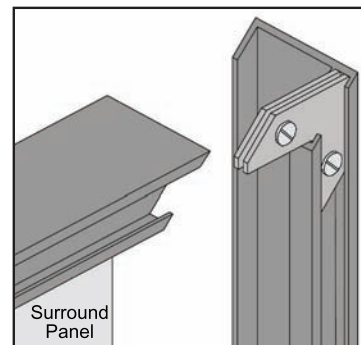
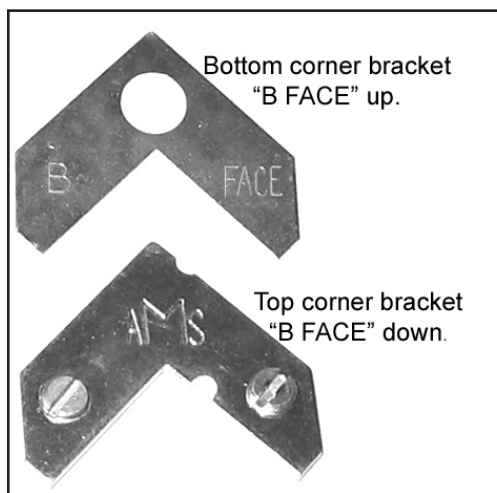

Figure 27: Corner brackets for trim.
Figure 28: Two pieces of corner bracket.
1. Attach one side trim to the top trim using a corner bracket (see Figure 27) to secure pieces together. There are two (2) main pieces to each corner bracket (see Figure 28). Install these corner pieces into the trim with the "B FACE" sides facing each other & the screw heads facing outward. Align the side and top trim tightly together and with a flat head screwdriver tighten the screw in each corner bracket in the side trims, then tighten the top trim.